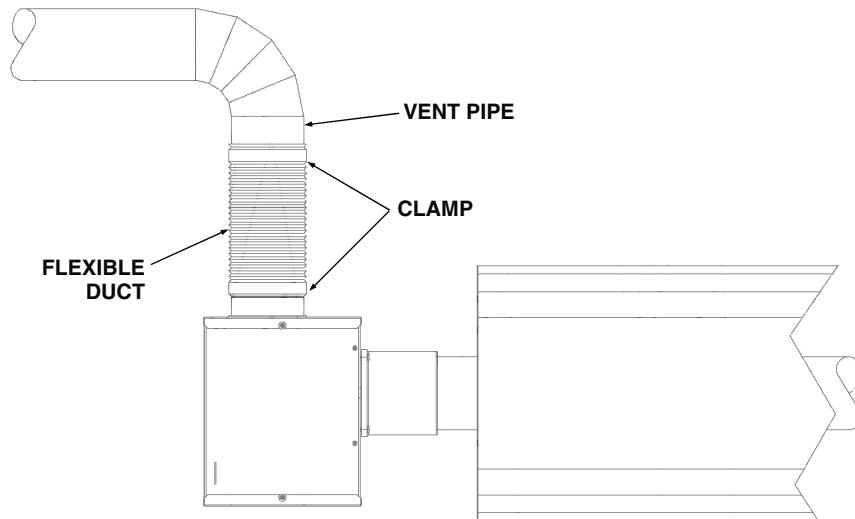

Figure 21. Fresh Air Intake Duct
- Connect a 4-inch (101-mm) diameter aluminum vent pipe from the fresh air to a flexible jointing piece connected to the air intake connection on the fan housing. Secure using hose clamps (see Figure 21).